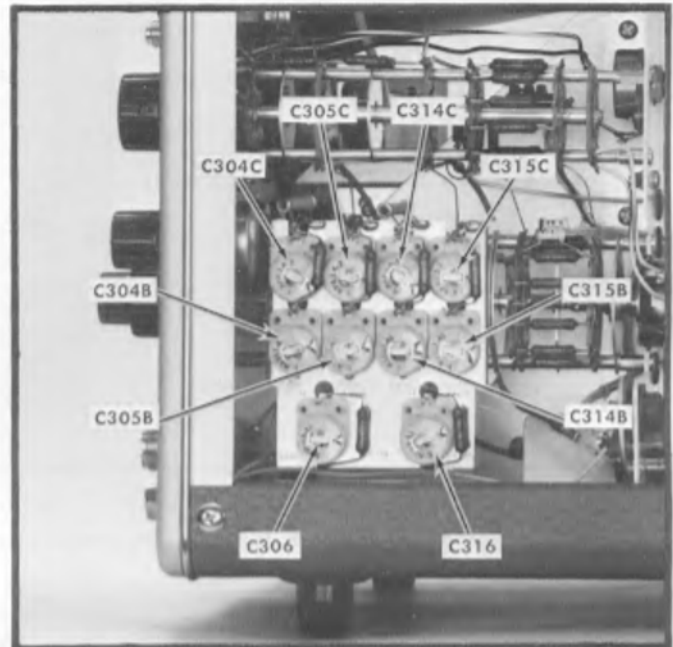

Fig. 6-21. Horizontal Amplifier attenuator compensation adjustment location (instrument right side).
- i. Adjust C306 for an optimum square wave with flat top. (See Fig. 6-21 for adjustment locations.)
z. Repeat the procedure outlined in steps (h) through (y), referring to Table 6-4 for control settings, adjustments required, and waveform tolerances. The HORIZONTAL —INPUT attenuator adjustment locations are shown in Fig. 6-21.